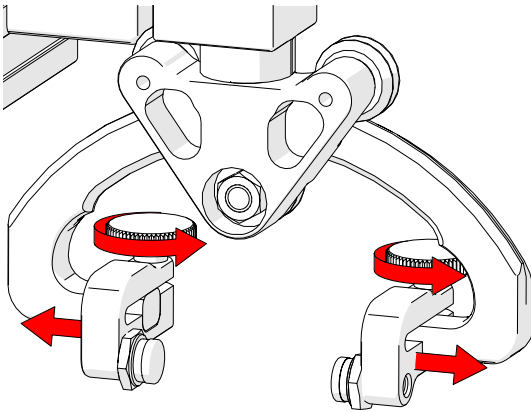

Fig. 228 - Loosen knobs and move arms
4. Loosen the two probe holder arm adjustment knobs and move the arms apart to create space for the probe (Fig. 228).